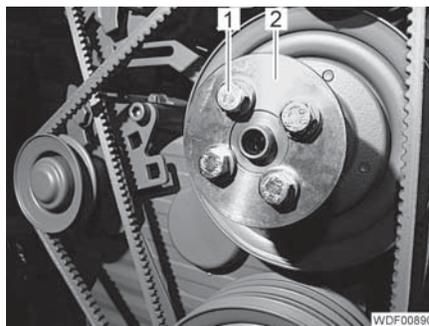

Fig. 29 Disc of the fan wheel flange
- Unscrew the 4 screws (Fig. 29,1).
- Remove the washer (Fig. 29,2).